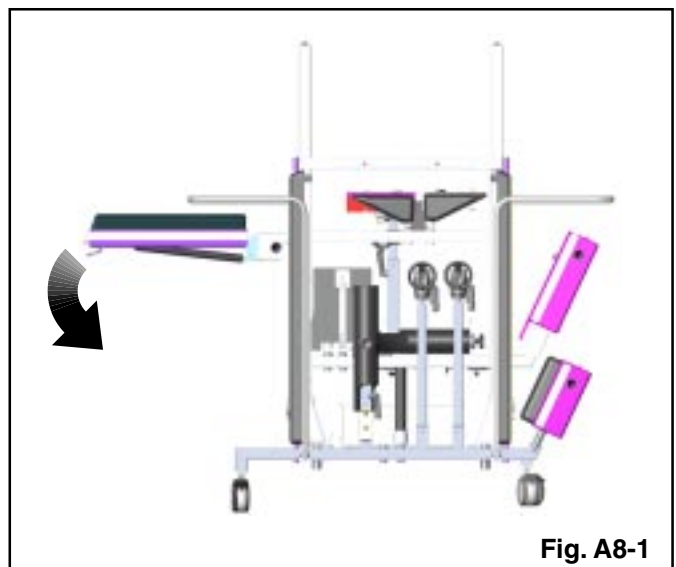

Fig. A8-1
- v Raise the leg section's release bar and adjust it down as shown on Fig. A8-1. **IMPORTANT Do not leave the leg section horizontal.**